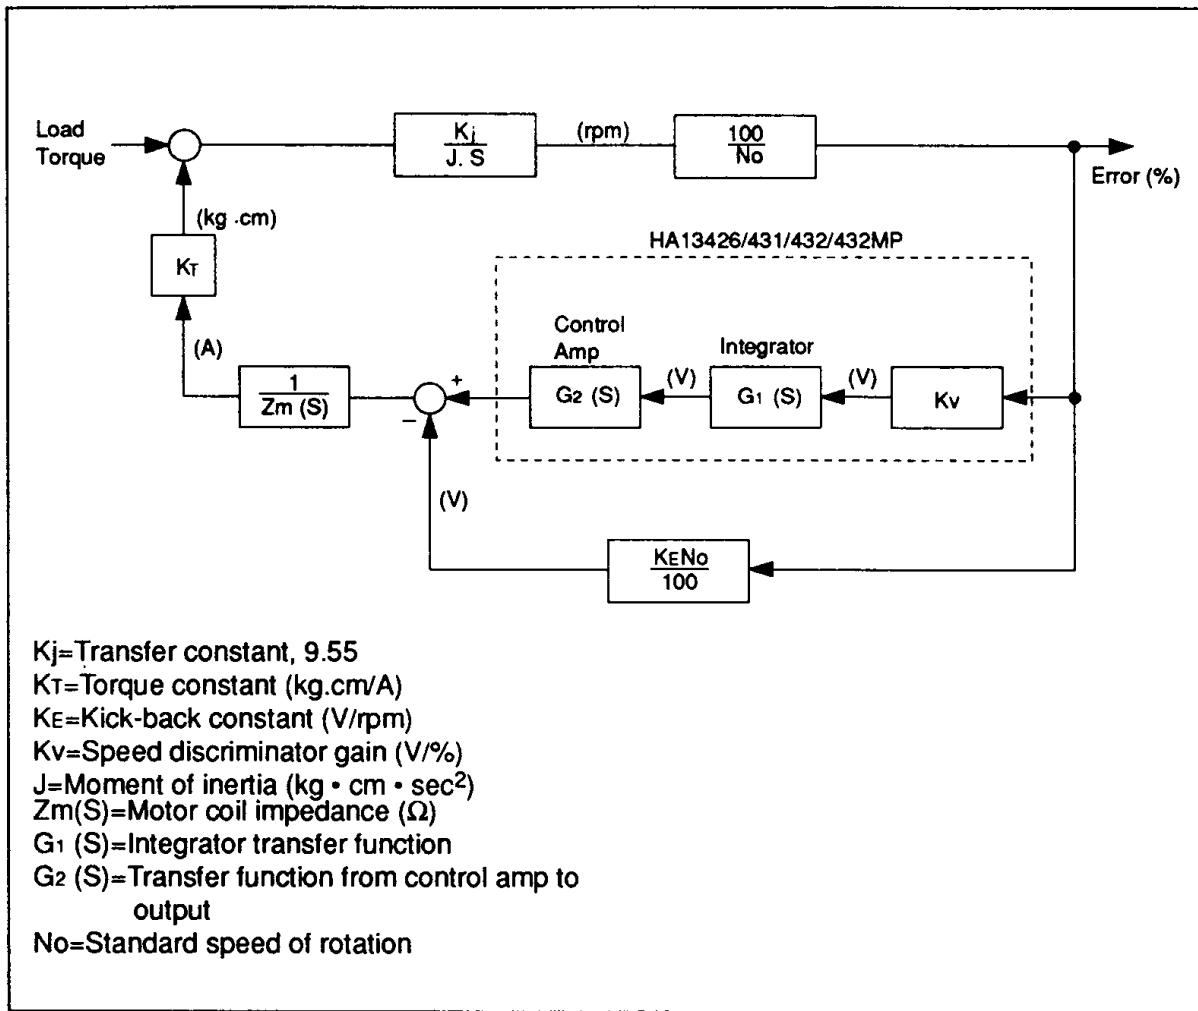
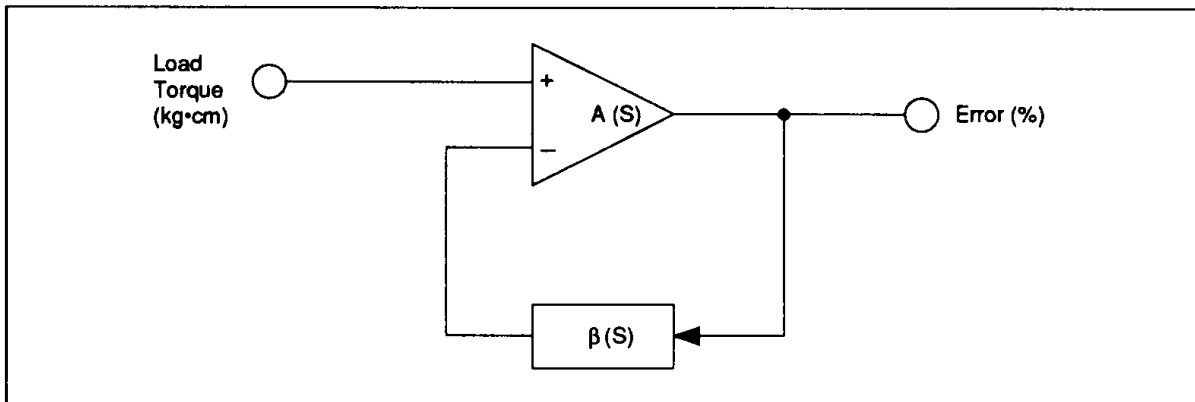

Figure 1 Block Diagram
Figure 2 Simplified Block Diagram
Figure 1 is the block diagram showing motor speed control by the HA13426/431/432/432MP. The part enclosed by dotted lines denotes the IC, and G_1 (S) and G_2 (S) indicate an integrator transfer function and the transfer function from control amp to output, respectively. Since these ICs are driven by voltage, the motor coil impedance and the kick-back voltage are contained in the loop.
In Figure 1, when
Then Figure 1 can be shown in Figure 2.